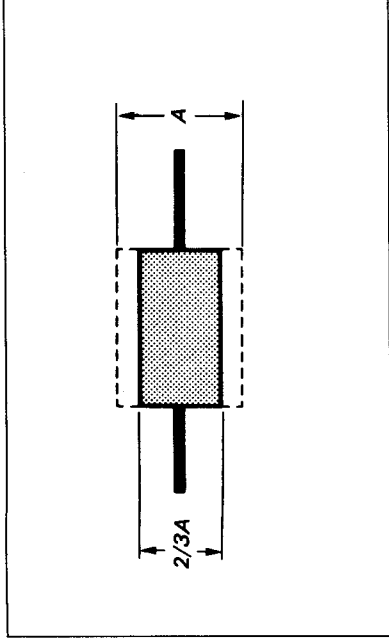

Fig. 7-79.
- 2) Set the SEL switch of the track shift & monitor jig to ON, and turn track shift knob until the RF waveform amplitude is 2/3. (See Fig. 7-79.)